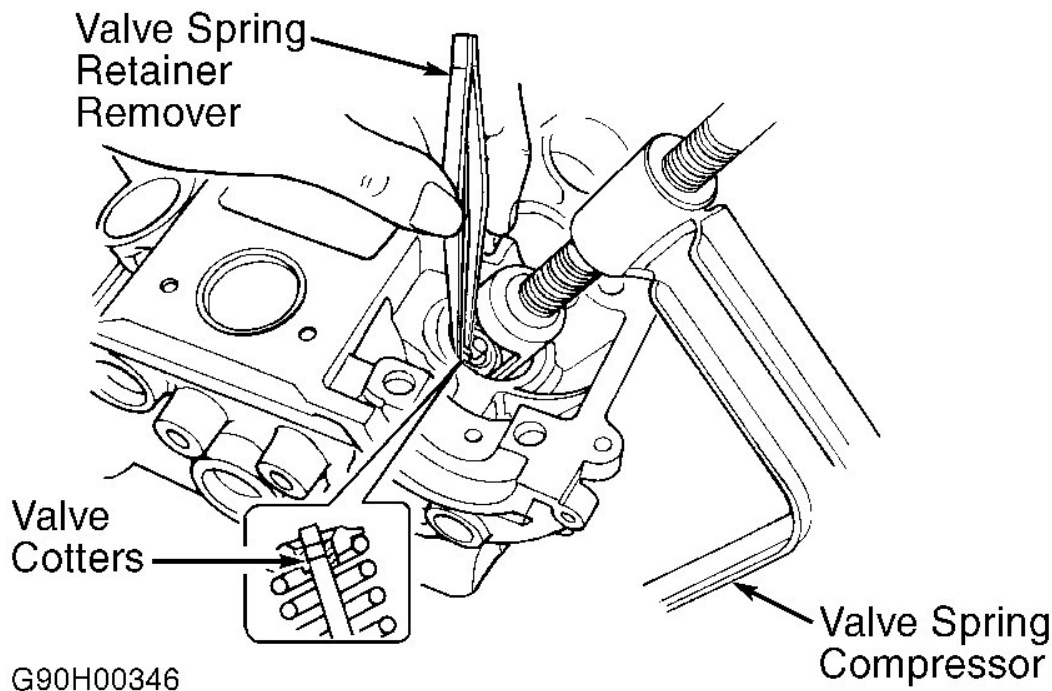

Fig. 9: Removing Valve Lock
2. Using Valve Spring Compressor (09916-14510) and Valve Lifter Attachment (09916-14910), compress valve spring. Using Valve Spring Retainer Remover (09916-84510), remove retainer locks. See **Fig. 9**. Remove retainers, springs, valve stem oil seals, spring seats and valves. Keep all components in order for reassembly reference.